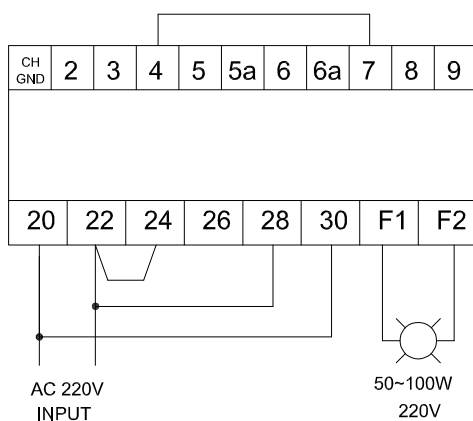

Figure 7 AVR Testing Wiring Diagram
1. Setup ADVR-12 as shown in Figure 7. and switch SW5 to OFF position.